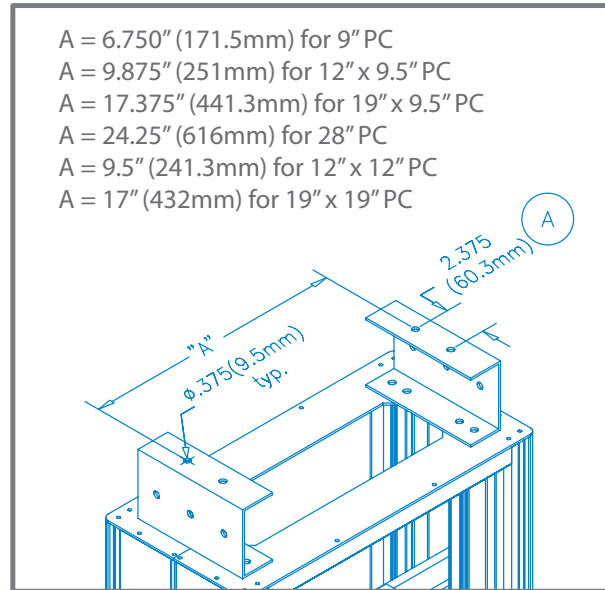
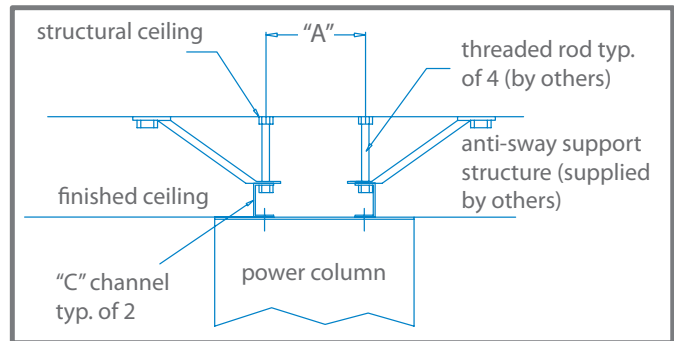

Figure 2
Figure 3
4. Structural bracket(s) and hardware to attach to Amico column are to be supplied and installed by others (see figure 3). Amico provides 2 "c" channels attached to the column to mate with this structural support (see figure 2).